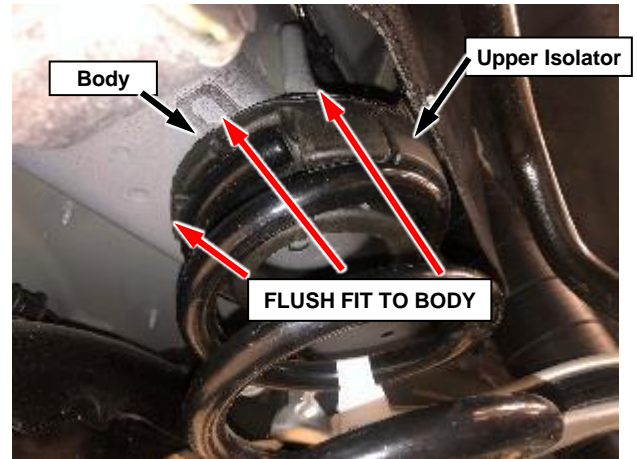

Figure 3 – Upper Spring Isolator to Body
- 3. Verify that the upper spring isolator is seated flush to the body on the welded **body pilot feature** (Figures 3 and 4).